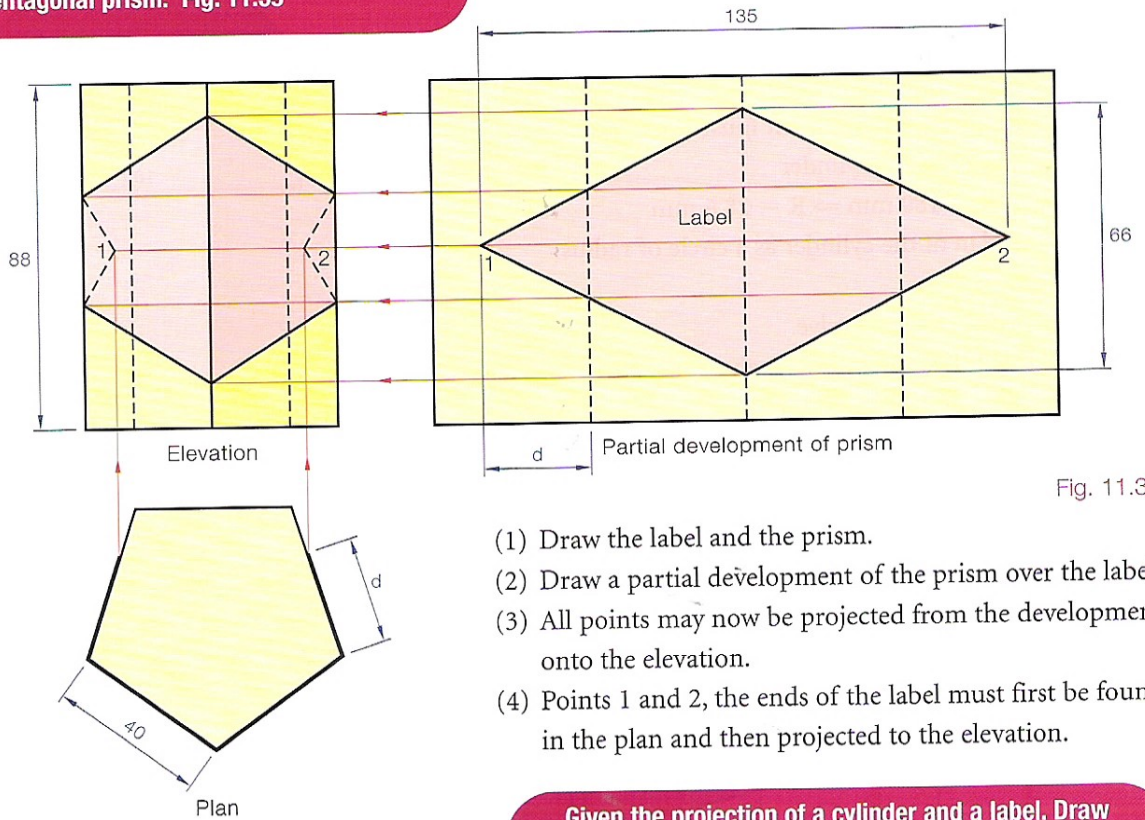

Fig. 11.39
**Given a label, draw it in position wrapped around a pentagonal prism. Fig. 11.39**